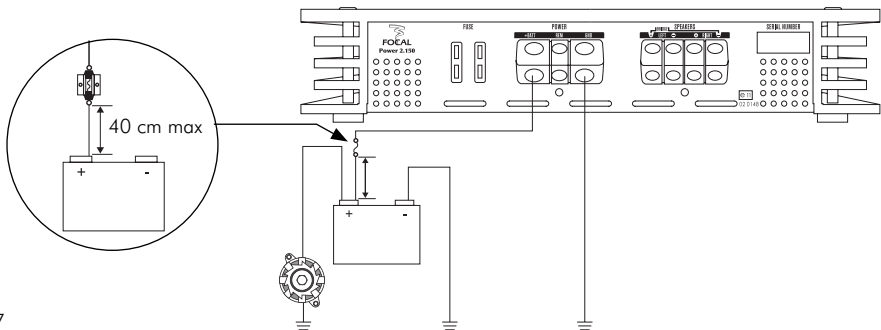

fig. 7
- 9 - Always protect the battery and electrical circuit from potential damages with the help of fuses. Install a fuse holder and suitable fuses on the 12V positive (+) power cable at less than 40cm from the battery terminal. Ideally, this abovementioned distance should be the shortest possible. (fig. 7).
**3.7.1** - You can now start the fuse-holder (the role of which is to make the system safe) installation phase. The fuse-holder must be connected on both sides to the positive (+) power supply cable. It has to be near the battery (i.e. 10cm - 40cm from the battery). Disassemble the fuse-holder, taking care to remove the fuse. Attach the base of the fuse-holder. Cut the red power supply cable at a distance of between 10cm and 40cm (maximum) from the battery. Retain the cable you do not use here, as it will be used later, to link the other end of the fuse-holder to the positive (+) terminal of the vehicle's battery. Strip 1cm of the cable end, then tin it. Screw the cable into the fuse-holder binding post terminal. Do not throw away the spare cable that is left over. Strip 1cm of the cable end, then tin it. Screw the cable into the other fuse-holder binding post terminal (fig. 7).